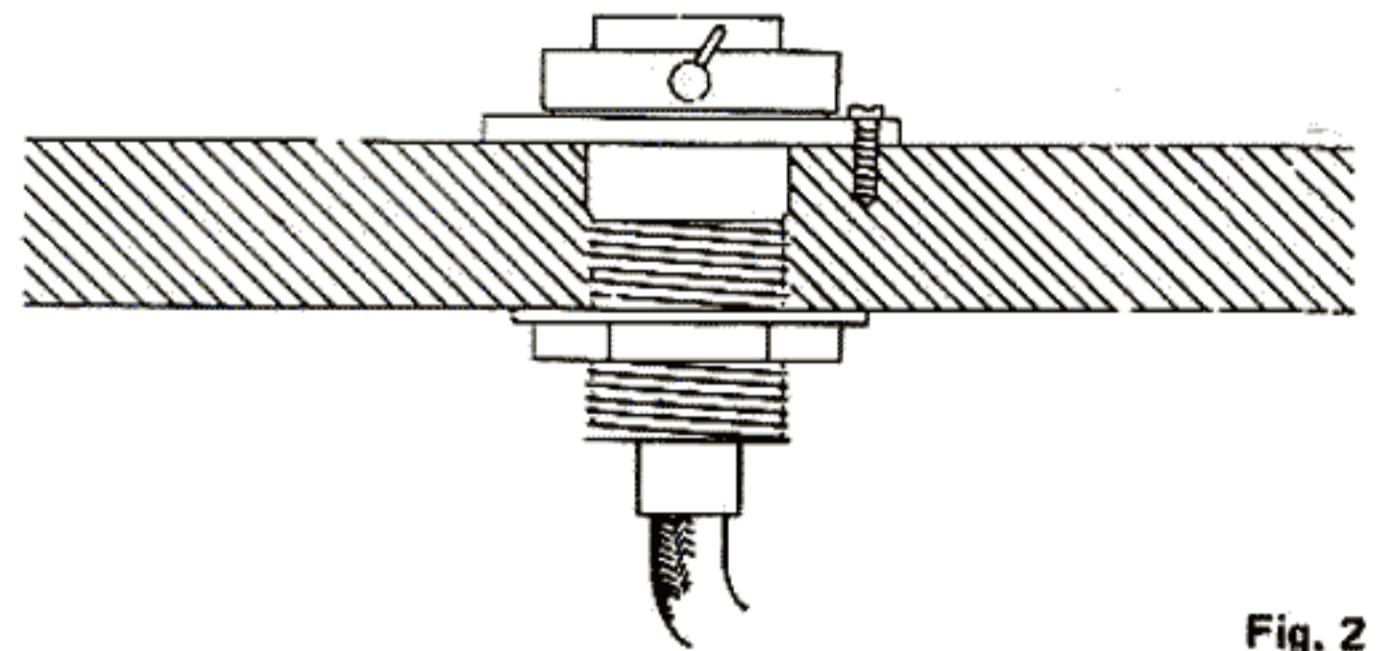
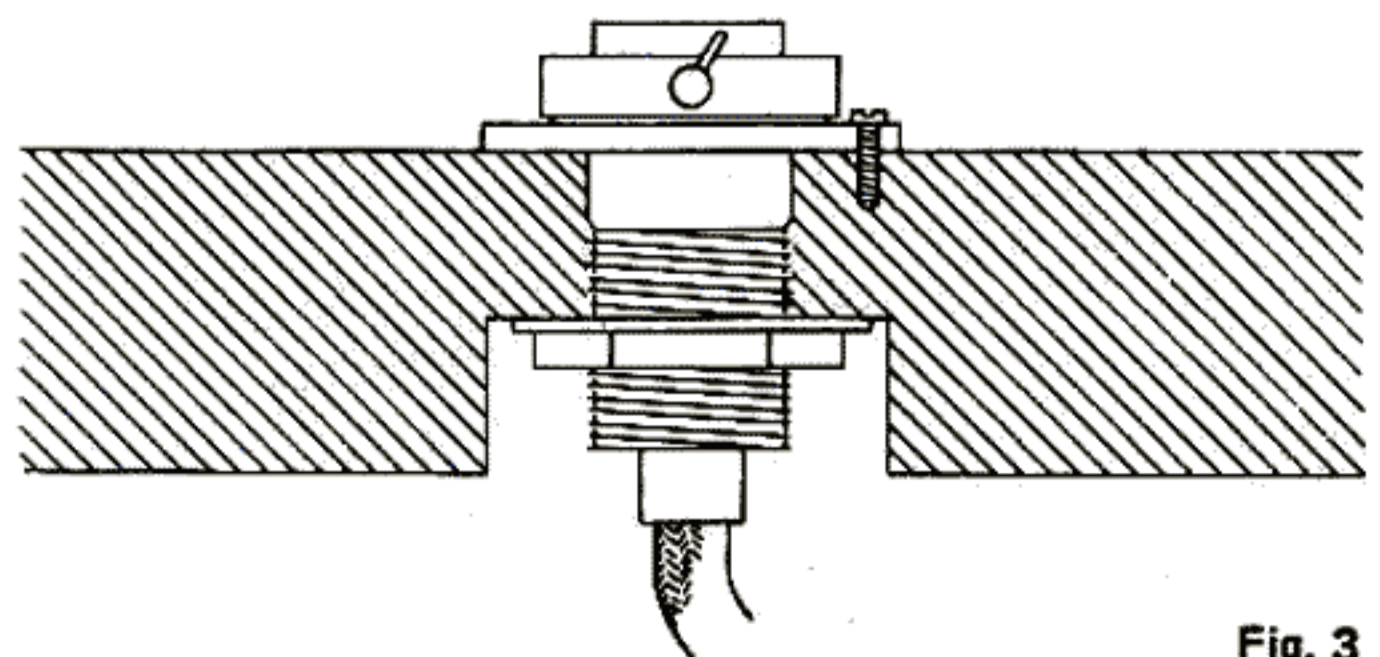

Fig. 2
Fig. 3
5) Insert the tonearm into the installation hole as shown in fig. 2. Then secure the retaining screws from above. Next secure the base by tightening the nut on the underside of the motorboard. When a board of more than 30 mm thickness is used, cut the hole on the underside as pictured in fig. 3, then install the arm.